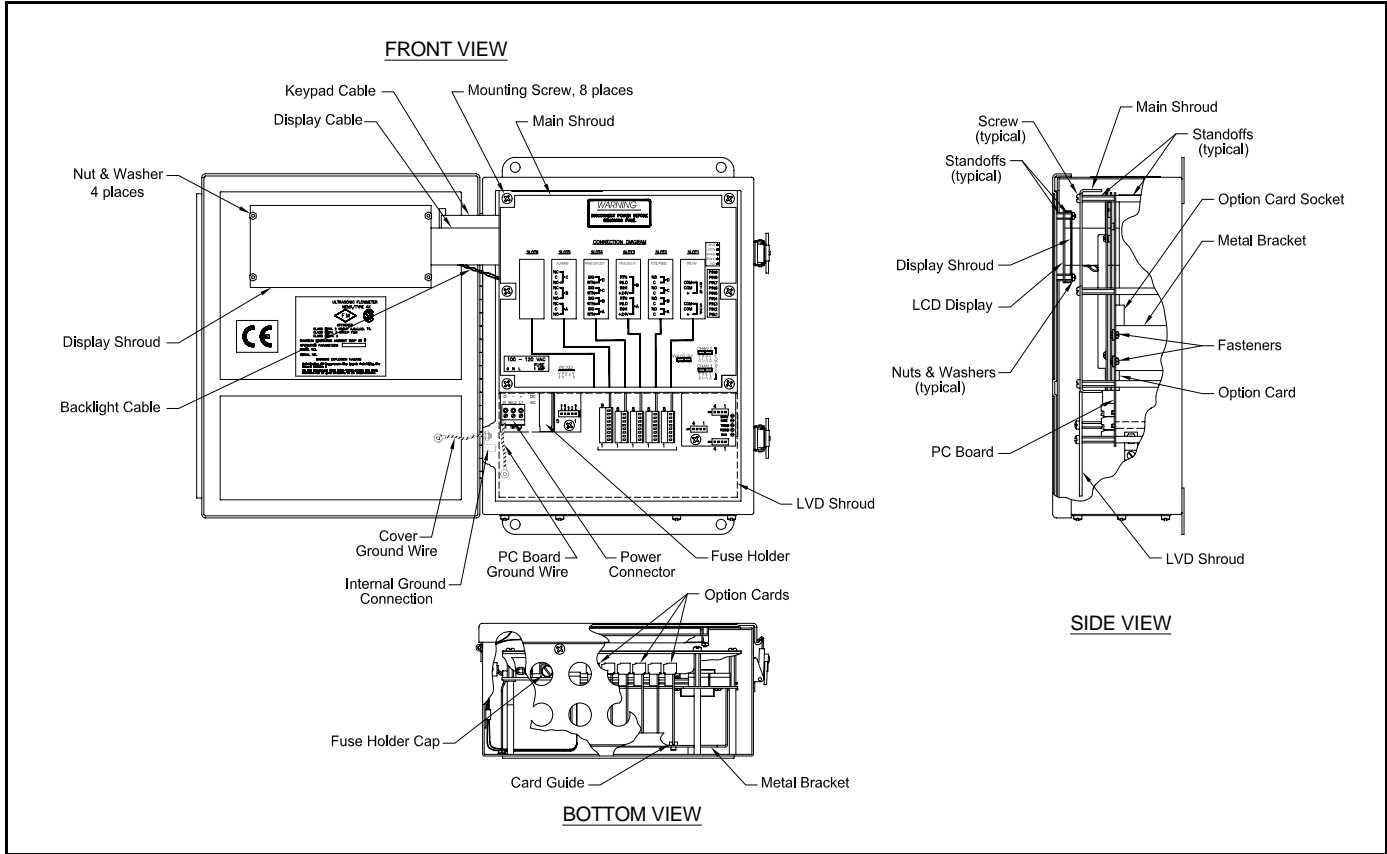
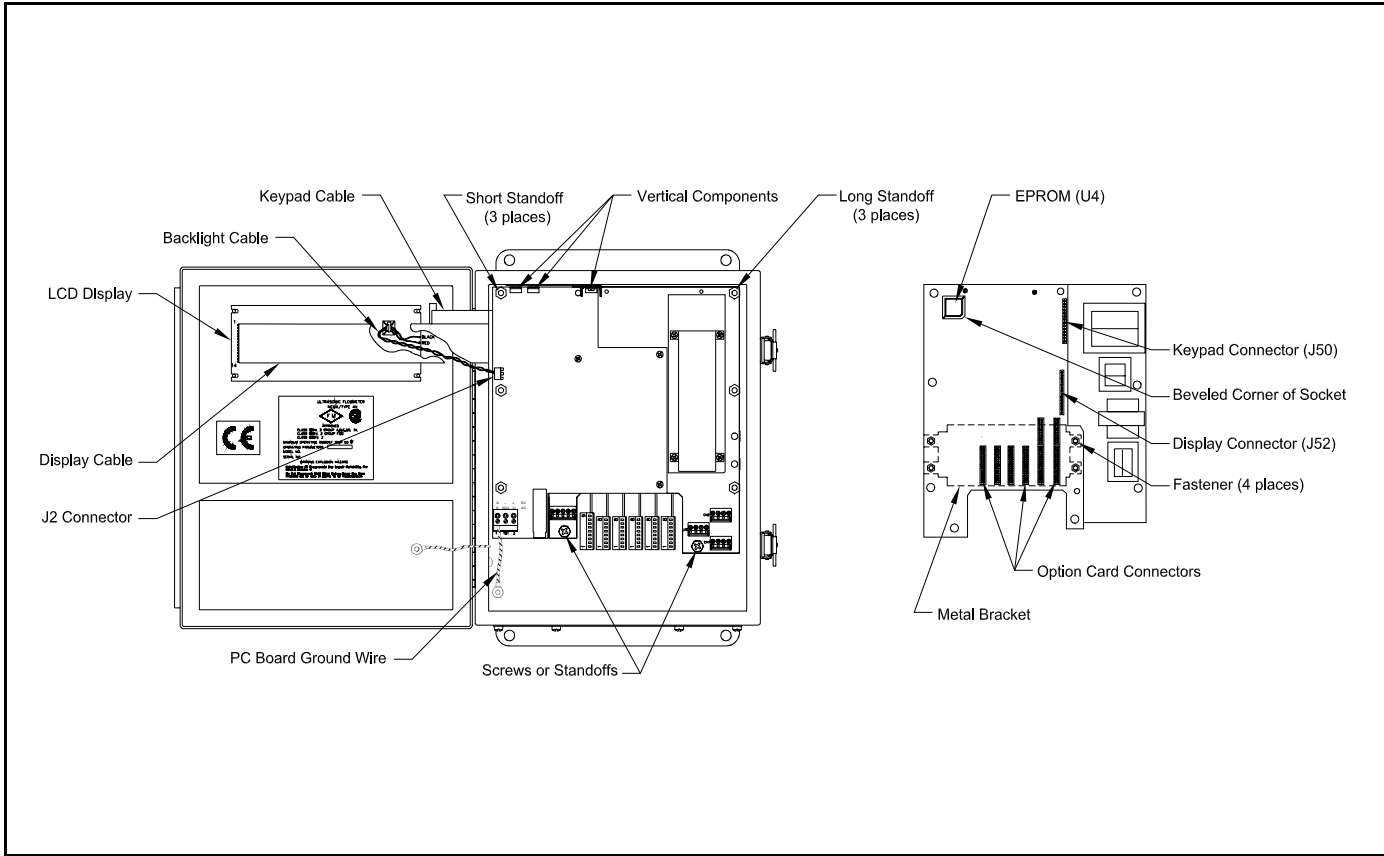

Figure 4-1 Standard Model DF868 - Electronics Console Assembly
Figure 4-2: Standard Model DF668 - Printed Circuit Board Assembly
The Model DF868's *User Program* is stored on an erasable programmable read only memory (EPROM) chip. The EPROM, which is designated as component U4, is located in the top left corner of the rear of the printed circuit board. See Figure 4-2 on page 4-11 for a rear view of the printed circuit board. EPROM replacement may be required to replace a defective chip or to upgrade to a newer software version. To replace the EPROM, complete the following steps:
To install an option card, refer to Figure 4-2 on page 4-11 and complete the following steps:
5. Place the metal bracket over the option cards, making sure that all option cards are aligned with the plastic card guides in the bracket. Secure the metal bracket to the printed circuit board with the snap rivets provided. See the installed assembly in Figure 4-1 on page 4-10.
The Model DF868's measurements are displayed on a two-pane LCD graphic display panel. The LCD display normally provides years of dependable service, but it is easily field-replaceable when necessary. To replace the LCD display, see Figure 4-1 on page 4-10 for the component locations, and complete the following steps:
4. Place the new LCD display assembly over the mounting studs on the console cover and fasten it in place with the four standoffs. Make sure that the LCD display assembly is oriented as shown in Figure 4-2 on page 4-11.
Whether the printed circuit board was removed for replacement or for one of the other procedures discussed in this chapter, reinstallation of the printed circuit board is the final step in the process. Refer to Figure 4-1 on page 4-10 and complete the following steps:
During this procedure, be very careful not to damage the vertical components along the top edge of the printed circuit board (see Figure 4-2 on page 4-11). Severe or repeated bending of these components will break their leads.
1. Position the printed circuit board within the electronics console with the top edge tilted forward. Insert the display ribbon cable and keypad ribbon cable connectors into their sockets on the rear of the printed circuit board. See Figure 4-1 on page 4-10 and Figure 4-2 on page 4-11 to identify the cables and sockets. Note that the keypad cable connects to the upper socket and the display cable connects to the lower socket.